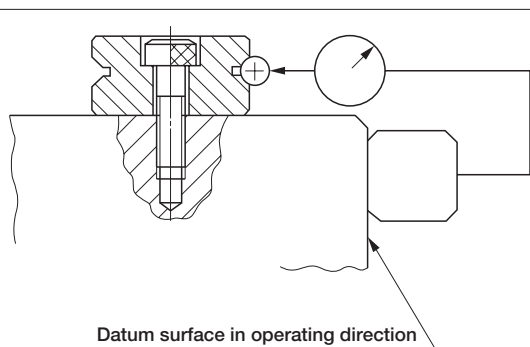

Fig. 20 Checking of mounting accuracy for center way
❶ Preparation for mounting
❷ Cleaning of mounting surfaces on table and bed
❸ Mounting of center way (Fig. 20)